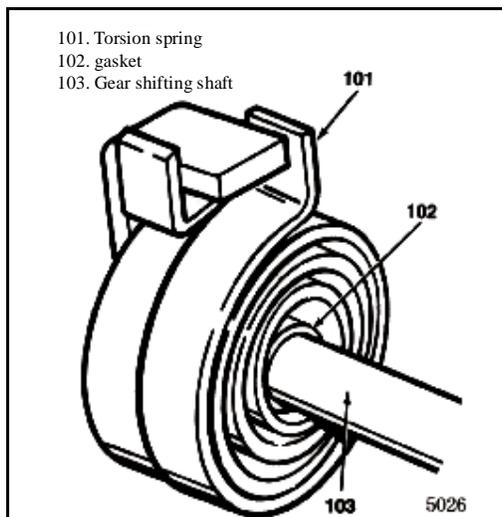

Fig. 5-6
4. Push torsion spring (101) and gasket (102) together backward as possible (see Fig. 5-6) .
5. Install electric gear shift Cam (100) on gear shifting shaft (103) with the end of cam with drive tongue entering first. The cam fixed on the drive tongue is located above gear shifting shaft, under drive tongue and between the torsion spring finger tips, and moves inward as possible.